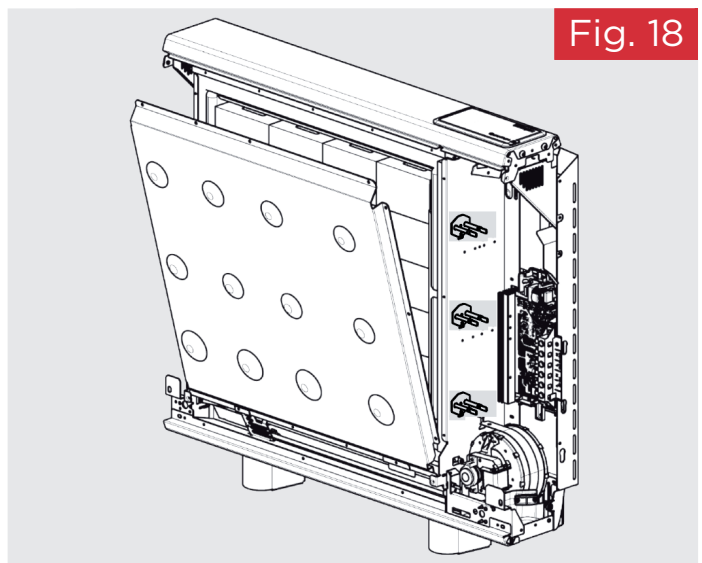

Fig. 18
18. Close the core by refitting the inner front panel complete with insulation, starting at position and working clockwise. (Fig. 18)